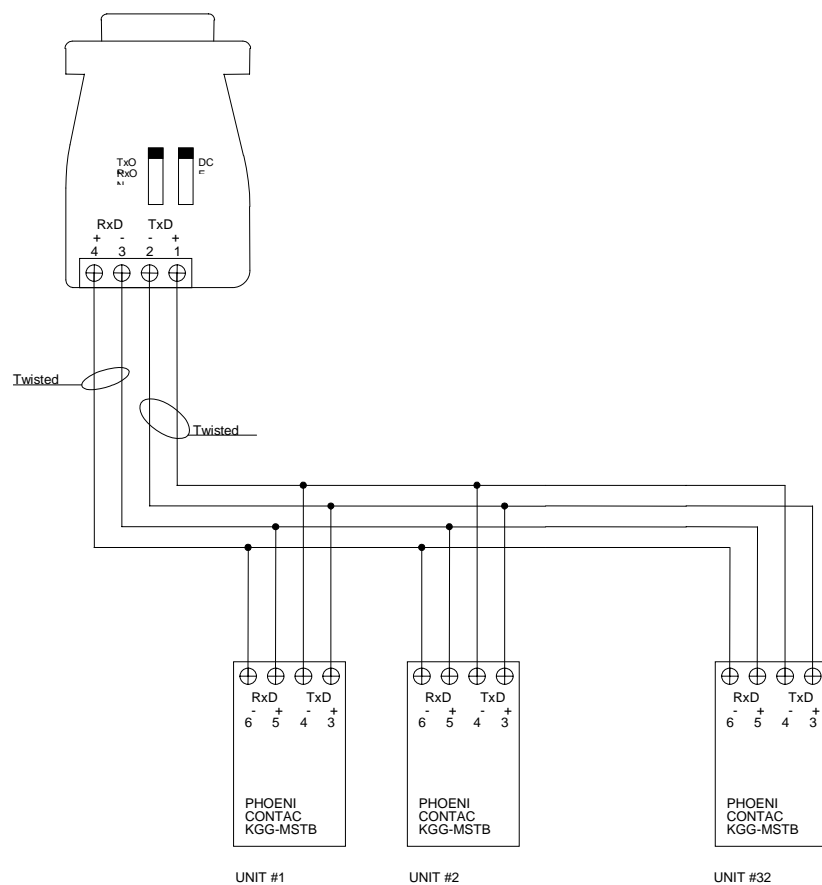

Figure 3: RS485 Connection Diagram
- (1) Install a communication cable (2 twisted pairs, shielded) between the PC and the PQA.
- (2) Connect an RS-485/422 to RS-232C converter (e.g. ATEN model IC-485/SI) to the computer end of the communication cable. Set converter's DIP switches to TxON/RxON (i.e. Transmit and Receive are always on) and DCE (i.e. connecting directly to the PC).
- (3) Connect a PHOENIX contact KGG-MSTB 2.5/4-ST connector to the system end of the communication cable as shown in Figure 3.
- (4) To connect multiple systems, use a PHOENIX connector in parallel for each system.